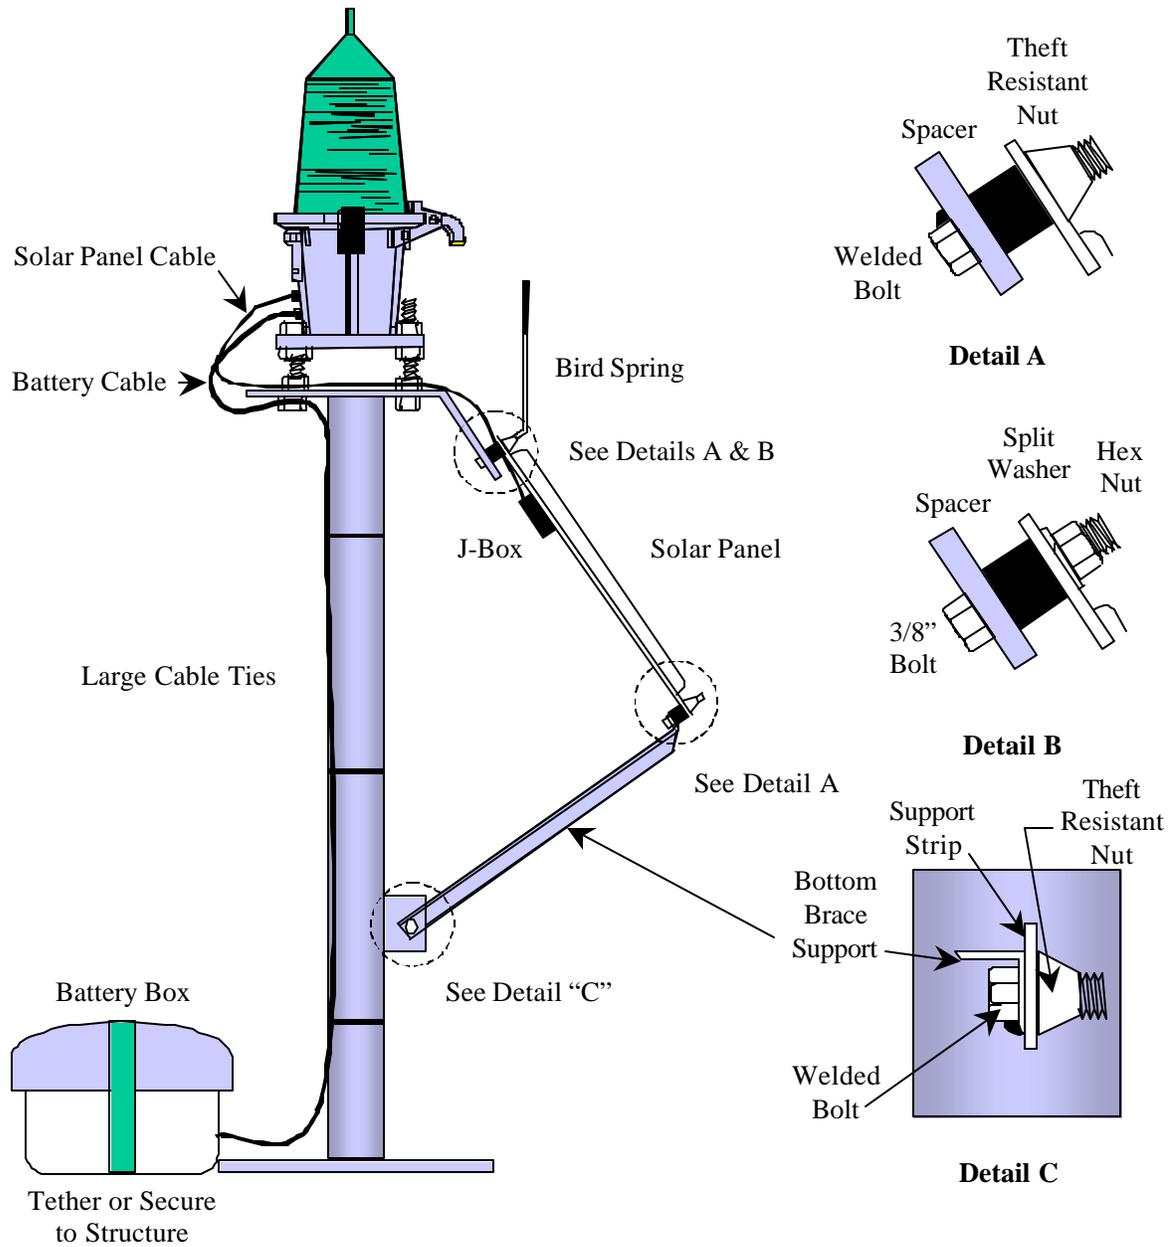

Figure 1.
8. Attach the "Bottom Brace Support" to the "Support Strip" on the pipe stanchion, as shown in Figure 1. Install a theft resistant nut. DO NOT TIGHTEN.
15. Install bird springs, if desired, and bend up as shown in Figure 1.